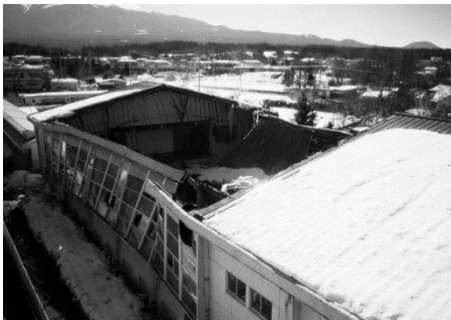

Figure 1 Gymnasiums collapsed under the unexpected heavy snow
There is no guarantee that natural disturbance always occurs as expected at design stage. Figure 1 shows two gymnasiums which were collapsed by snow fall which much exceeded the depth required in the design code.
- (2) In order to prevent the collapse like shown in Figure 1, and to minimize the damage, what kind of countermeasure do you think should be applied to the gymnasium in the next week? Propose and explain your scheme clearly by using drawings or diagrams. Explain how your scheme is effective even if the snow depth exceeds far beyond the design depth.